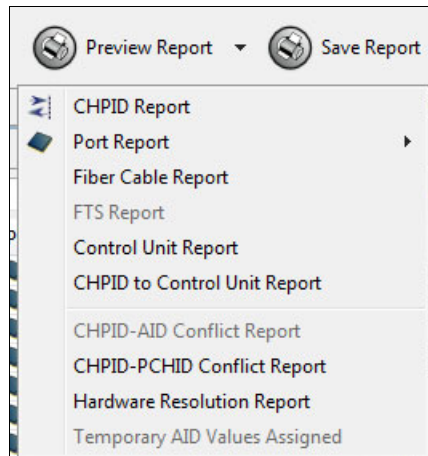

Figure 5-98 CMT - Preview report - CHPID Report
1. Click **Preview Report** → **CHPID Report** (Figure 5-98).